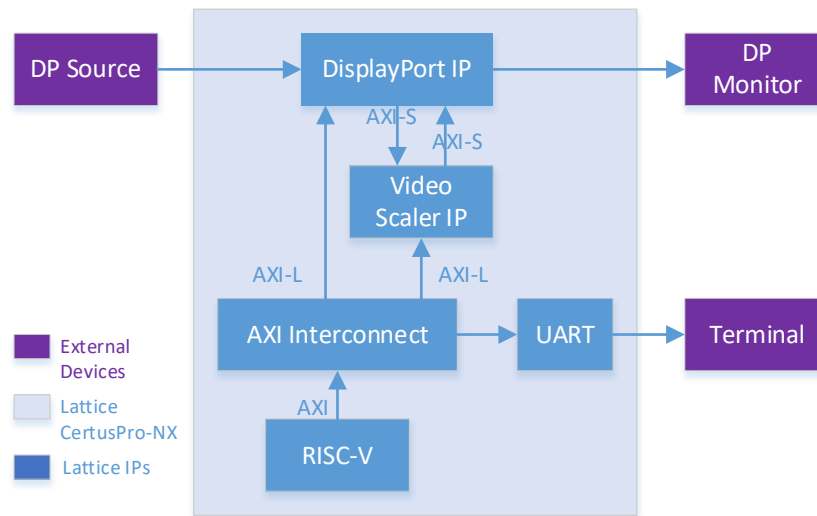

Figure 1.1. DP Video Scaler Hardware Top Level Diagram
This demonstration illustrates the integration of the Lattice DisplayPort (DP) IP and Lattice Video Scaler IP. The Lattice Semiconductor CertusPro™-NX Evaluation Board allows designers to evaluate the features of the CertusPro-NX Field Programmable Gate Array (FPGA) and assists them with rapid prototyping of their designs. The DisplayPort and Video Scaler demonstration showcases an end-to-end Video Scaling system. It includes Lattice DP IP and Lattice Video Scaler IP as the primary components. The demonstration system is schematically shown in Figure 1.1. It takes in a video from a DisplayPort source, like a desktop, scales the resolution up or down and re-transmits the scaled video through a DisplayPort connector to a DisplayPort sink, like a computer monitor. As shown in the Figure 1.1, the DP input is received by the DisplayPort IP receiver (DP Rx), scaled by Video Scaler and sent to the DisplayPort IP transmitter (DP Tx) to be sent to the DP connector. There are additional components in the demonstration system, like a RISC-V processor, AXI interconnect and UART, which are used to read the status of DP IP and display that in an external terminal.